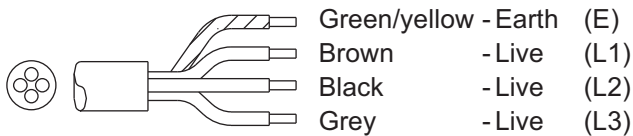

fig. 4
- (fig. 4) In case of 3~ 230V (4-core cable).